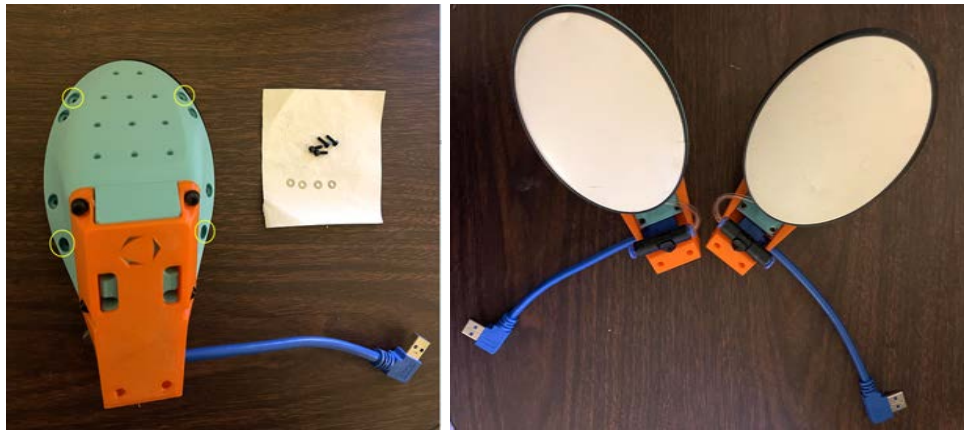

Figure 77: Bubble modules mounted onto Bubble\_Gripper\_Body.
15. Insert four M2 washers and four M2 x 5 mm socket head cap screws into each Gripper\_Finger\_Body and use an 1.5 mm allen key to attach the bubble module assemblies from section Bubble Module Assembly - shown in figure 77.